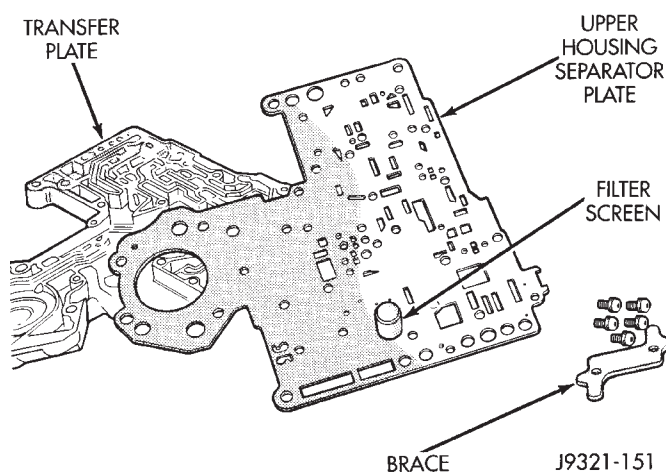

Fig. 117 Upper Housing Separator Plate Removal
(31) Remove upper housing separator plate from transfer plate (Fig. 117). Note position of filter in separator plate for assembly reference.